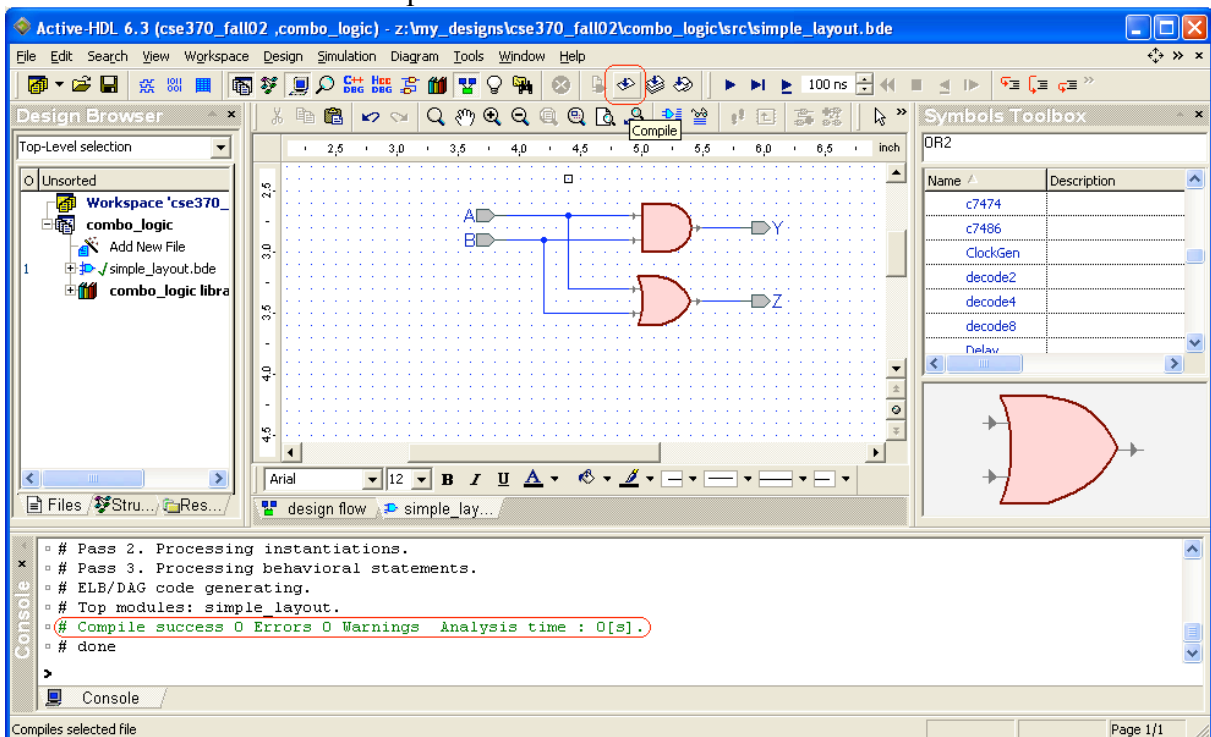

Figure 21
4. After you have checked your diagram and resolved any errors or warnings, click the Compile icon in the Standard toolbar (see Figure 21). The Console window will display the results of the compilation. When compiling a schematic, the console will generally compile successfully even if there are gates and/or terminals that are not connected (in some cases, warnings will be issued for unconnected ports). Therefore, just because a schematic compiles does not mean that it will do what you intended it to do during simulations. This is the reason you need to check your diagram prior to compiling. Figure 21 shows a successful compilation.